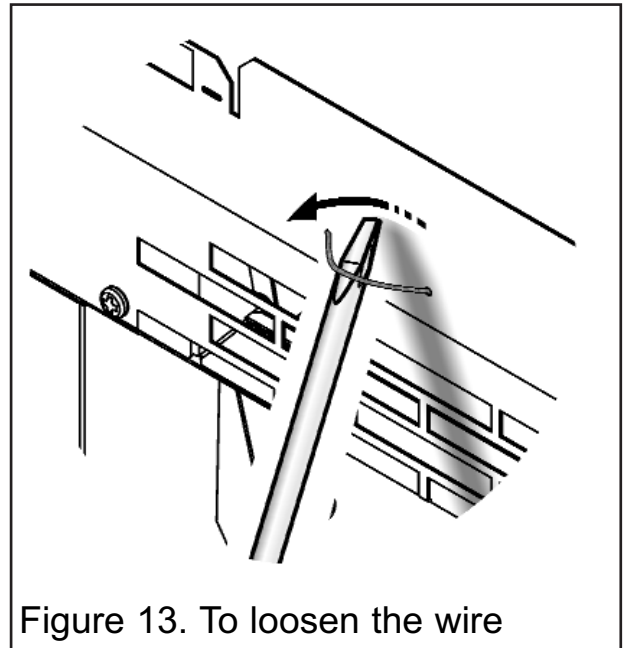

Figure 13. To loosen the wire
2. The firefront is held in place with a single wire. It will be necessary to loosen and remove the wire at one side. Do this by placing a flat ended screw driver or similar tool behind the wire loop on the front of the firefront (See figure 13). Push the wire loop towards the outer hole and pull on the wire where it passes through an outer hole in the firefront. The wire should become loose and can then be pulled from the outer hole. With the end of the wire free, gently pull the firefront forward.